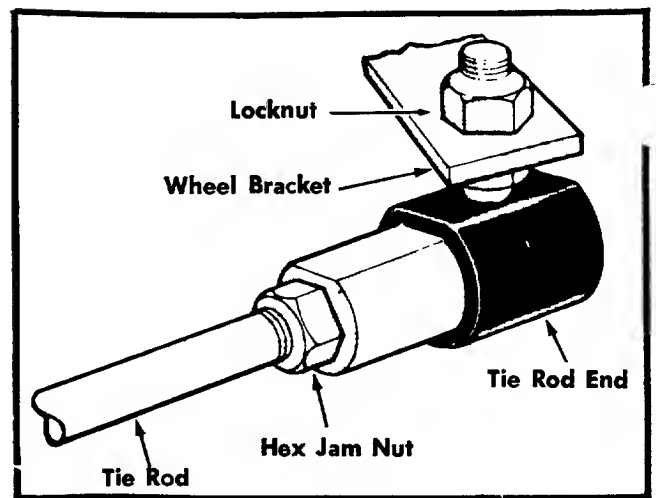

FIGURE 36. TIE ROD END
1. Remove the elastic locknut and drop the tie rod from the wheel bracket. See figure 36.
2. Loosen the hex jam nut on the tie rod. See figure 36.